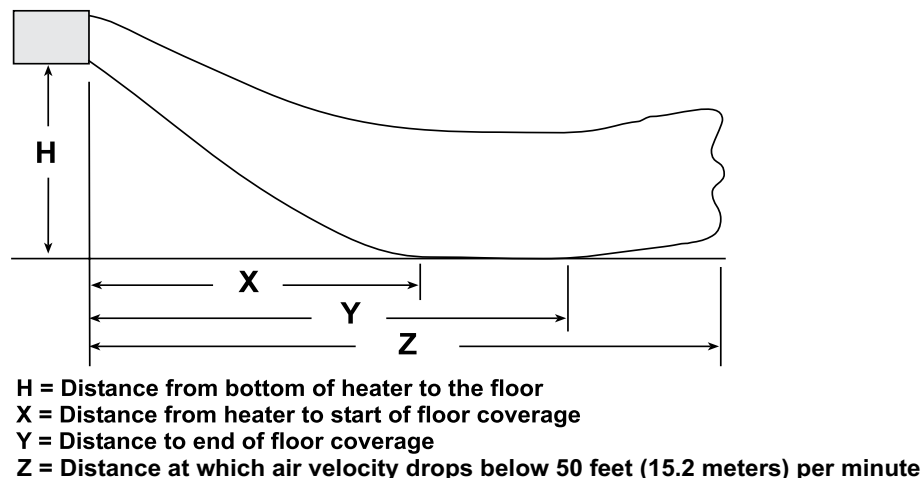

Figure 1. Heater Throw Patterns (Refer to Table 2 and Table 3)
Figure 1 shows throw patterns for fan model units. **Table 2** and **Table 3** list throw distances for standard, adjustable horizontal louvers on heaters suspended at varying mounting heights. The louver angles listed are relative to the top of the heater. The throw pattern changes with the addition of optional vertical louvers and/or downturn nozzles.
*Distance in feet (see Figure 1).